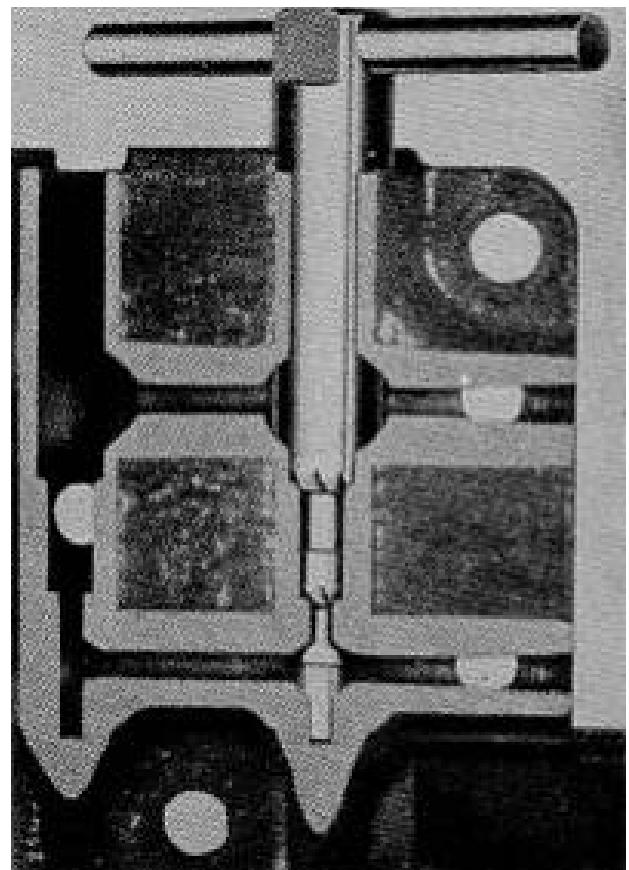

Fig. F097 - Hydraulic pump inlet and outlet valve seats in pump valve chamber can be reseated as shown.
120. INLET AND OUTLET VALVES. Inlet and outlet valves (5 and 7-Fig. F092) are contained in each of the valve chamber covers. If inspection indicates valves are not seating perfectly same can be reseated using special Ford reseater as shown in Fig. F097 and the valves can be refaced. If valves leak after this work has been accomplished, make sure that guides (8) and sockets (9) are aligned to give concentric seating and that they are in good mechanical condition.
127. INLET AND OUTLET VALVES. Inlet and outlet valves (5 and 7-Fig. F095) are identical to the similar parts used in the 8N tractors. Valves can be reseated by using special Ford reseater as shown in Fig. F097 and the valves can be refaced. Be sure guides and sockets (8 and 9) are aligned to give concentric seating and that they are in good mechanical condition.